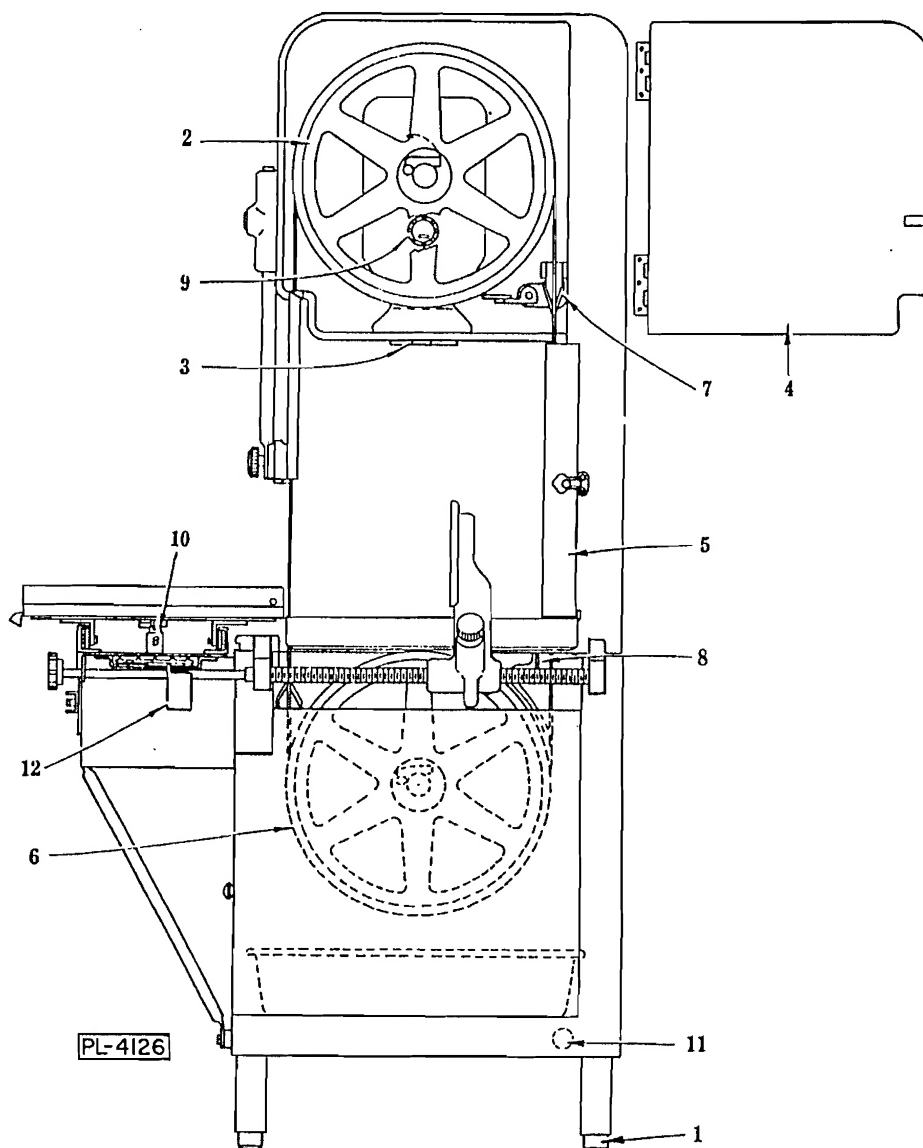
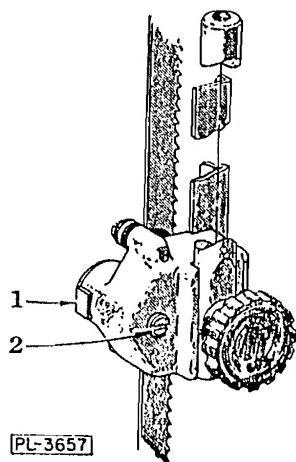
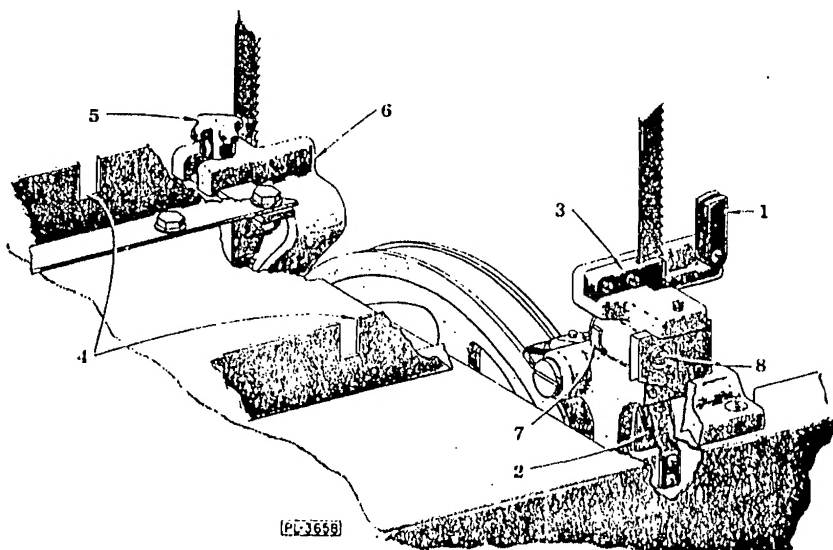
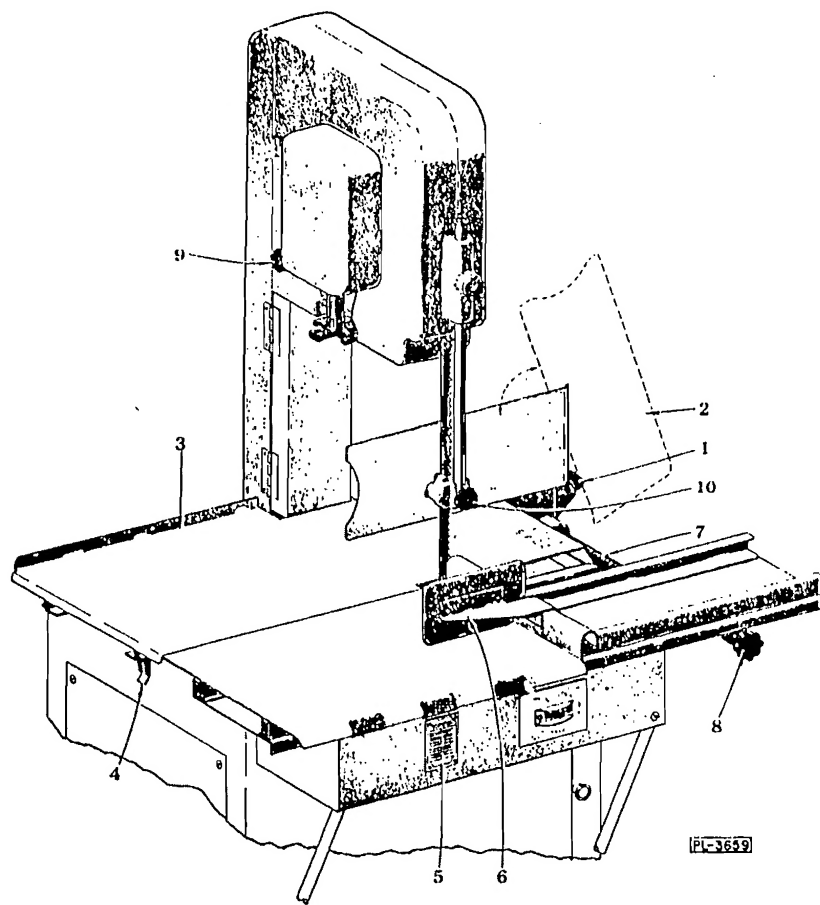

FIG. 1
FIG. 2
FIG. 3
FIG. 4
(1) Place the machine in the location where it is to be used. Re-assemble the feet (1, Fig. 1). Place a spirit level on top of the base unit and adjust the feet in the legs so that the base unit is level from side to side and front to back.
(2) Remove the motor access panel on the left side of the machine. Then using the two taper pins as locators, attach the front track and gusset assembly with the four retaining screws. Next assemble the two base plate support braces.
(3) Assemble the gage plate adjusting knob with shaft into position and lock in place with the rollpin furnished.
(4) Lower the upper blade pulley (2, Fig. 1) by giving the tension adjustment hand wheel (3, Fig. 1) a few turns to the left. Open the head door (4, Fig. 1), then unlatch and open the column cover (5, Fig. 1). Lift the knurled hand knob (1, Fig. 4) and raise the gage plate (2, Fig. 4) to its stopped position. Lift out the lower front wiper unit (Fig. 3) and lower the upper guide unit (Fig. 2) to its lowest position. Place the saw
blade over the upper blade pulley (2, Fig. 1) and lower blade pulley (6, Fig. 1). The teeth must point to the right and downward when viewed from the front as shown in Fig. 3. If they do not point downward, remove the blade, twist inside out and replace it on the saw. Make sure the blade is properly centered in the upper blade wiper (7, Fig. 1), the lower rear blade wiper (8, Fig. 1), and properly placed in the upper guide unit (Fig. 2). Turn the tension adjustment hand wheel (3, Fig. 1) to the right until the tension indicator (9, Fig. 1) reads "2." Give the upper blade pulley a few turns by hand so that the blade centers itself on the pulleys. Then turn the tension adjustment hand wheel slowly to the right until the indicator registers approximately "4". This is the best operating tension for the blade.
(5) Close the head door (4, Fig. 1) and column cover (5, Fig. 1).
(6) Assemble the lower front wiper unit (Fig. 3). Before sliding it into place, swing up the bakelite guard (1, Fig. 3) and see that the saw blade is between the two wipers (2, Fig. 3) and in the guide slot of steel block (3, Fig. 3). After sliding the unit into place, close down the bakelite guard (1, Fig. 3).
(7) With the gage plate (2, Fig. 4) in the raised position (clear of the table area), assemble the table (3, Fig. 4). The table is positioned by the locating slots (4, Fig. 3) in the table rest angles of the base. Make sure the reinforcing angles of the table are outside the table rest angles of the base. Lock the table in place by the spring catch (4, Fig. 4).
(8) The carriage may be assembled from either side. When rolling the carriage into place depress the carriage stop (10, Fig. 1). After this stop is released, the carriage will then be retained from rolling off.
Check the data on the name plate (5, Fig. 4) to make sure that it agrees with your electrical supply before connecting to the power line. Make your installation connection from the power line directly to the switch. To avoid having conduit at the front of the machine, it is recommended that flexible (or rigid) conduit be connected through the electrical inlet hole in the base (11, Fig. 1). The conduit connector on the end of the motor lead conduit should be assembled in the knock-out hole in the switch box. Next connect the motor leads to the switch.
(1) **UPPER GUIDE ASSEMBLY** (Fig. 2): Keep as low as the size of the work permits.
(3) **BUTT-END PUSHER** (6, Fig. 4): Use the pusher plate as described in paragraph VI and it will be unnecessary to hold your hand near the running saw blade.
(4) **GAGE PLATE:** The end of the gage plate (2, Fig. 4) is shaped to give maximum support and protection at this critical point, and at the same time, facilitate the taking off of slices.
(1) Keep a small amount of grease in the six ball bearing rollers on the carriage.
(2) Apply a few drops of oil occasionally to the gage plate screw (7, Fig. 4) and work the gage plate assembly back and forth a few times.
(3) Once a year, have a Hobart Service man look over the motor and main bearing carriers.
When cutting slices of uniform thickness, set the gage plate at the desired point with adjusting knob (8, Fig. 4) on the scale etched on the table. If the gage plate is not needed and interferes with the work, it may be raised out of the way. Lift the release knob (1, Fig. 4) and slide the gage plate on back to the end of gage plate screw (7, Fig. 4). The gage plate may be swung to a raised position at any setting along the gage plate screw without lifting the release knob.
To slice short ends, use the pusher plate (6, Fig. 4) to hold the meat against the gage plate. A rolled groove of the pusher plate slips over and slides along the rolled edge of the carriage. By holding the pusher plate with your right hand, your hand will then always be a safe distance from the saw blade and the stop will prevent the pusher plate from going too far. When not using the pusher plate, keep it stored beneath the carriage track, where provision has been made for holding it (12, Fig. 1).
(1) Roll carriage to extreme right or left. This exposes the carriage stop. Depress carriage stop and roll off stainless carriage.
(2) Rotate gage plate to raised position.
(3) Release spring catch and remove stainless steel table.
(4) Loosen the hand knob (9, Fig. 4), bump with hand to loosen stud and then remove the hand knob. Open head door and lift out upper blade wiper. Clean unit and lubricate with TASTELESS oil.
(5) Swing lower saw blade guard (1, Fig. 3) up and lift out lower wiper assembly. Clean unit thoroughly and lubricate with TASTELESS oil.
(6) Loosen hand knob (5, Fig. 3) and remove lower rear blade wiper (6, Fig. 3). Clean unit.
(7) Open base door and remove scrap pan.
(8) Release blade tension by turning tension adjustment hand wheel to the left. Open head door, unlatch and open the column cover. Remove saw blade.
(9) To remove the upper guide unit, remove the hand knob (10, Fig. 4) (blade tension already released) then lift off unit. Clean, lubricate with TASTELESS oil and replace.
(10) The upper and lower blade pulleys may be removed from their shafts by swinging the retaining latches clear of the shafts, then sliding the pulley from the shaft. Clean pulleys and lubricate bore before replacing.
(1) Move the carriage to the left to the stop, then depress the stop and move the carriage a few more inches just beyond the bakelite guard.
(3) Lower upper blade pulley by turning tension adjustment hand wheel to left.